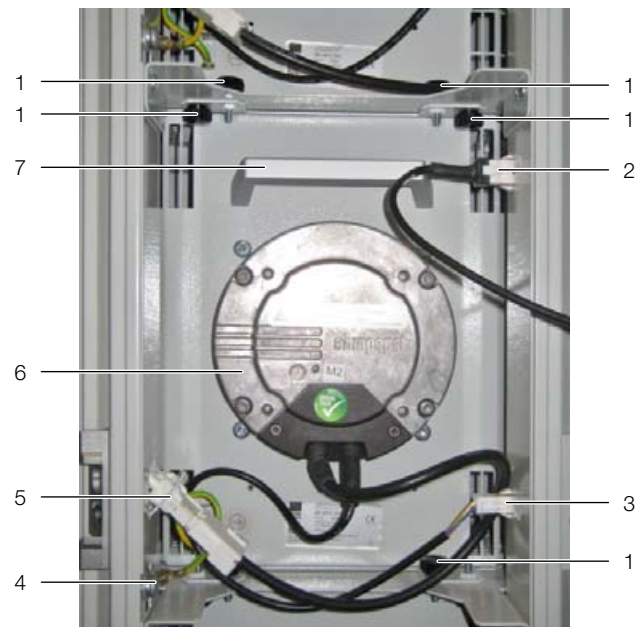

Fig. 30: Fan module in fan tray – LCP Inline and LCP Rack version
- Should you wish to exchange fan 2 and if the optional display with touch function is installed, please first disconnect connector X33 of the connection cable (fig. 30, item 2).
- Release the two fan connectors DC and AC on the left and right (fig. 30, items 3 and 5).
- Disconnect the earth connection on the fan (fig. 30, item 4).
- Loosen the two knurled/hex screws, right and left (fig. 30, item 1), at the top and bottom of the fan mounting plates.